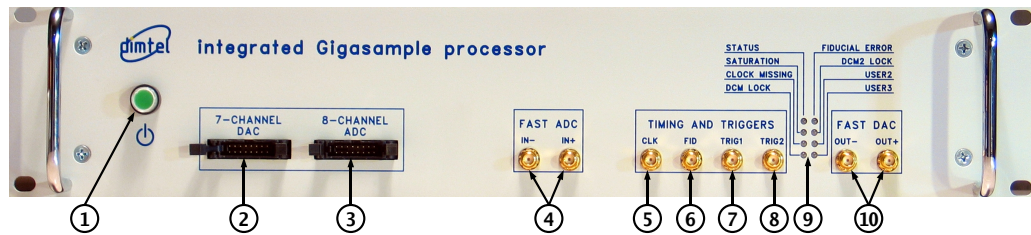

Figure 2: Front panel features
2. Connect RF clock at -3 dBm nominal level (Fig. 2, item 5);
3. Connect single-ended high-speed ADC input signal to **Ain+** (Fig. 2, item 4). The FS swing of this signal should be 190 mV peak-to-peak;
4. Connect a 50Ω terminator to **Ain-** (Fig. 2, item 4);
5. Connect high-speed DAC output(s) (Fig. 2, item 10) to the appropriate back-end unit;
9. Push the power button (Fig 2, item 1) to turn on the system;
11. Push the power button (Fig 2, item 1) to turn the system off;
- Connect the 16-pin ribbon cable between the 7-channel DAC (Fig. 2, item 2) and the 8-channel ADC (Fig. 2, item 3);
- Connect 499.654 MHz clock to the RF clock input (Fig. 2, item 5);
- Terminate `Ain-` fast ADC input (Fig. 2, item 4);
- Terminate `Aout-` fast DAC output (Fig. 2, item 10);
- Make sure fiducial input is not driven (Fig. 2, item 6);